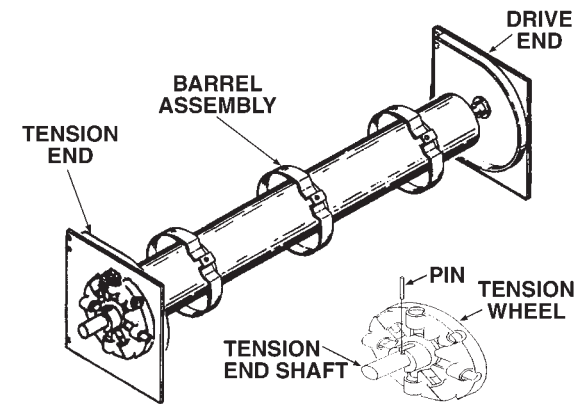

Fig 13
- Secure tension wheel to tension shaft using a key or a pin as shown in Figure 13. The pin must fully engage the tension wheel which is against the tension headplate bracket.